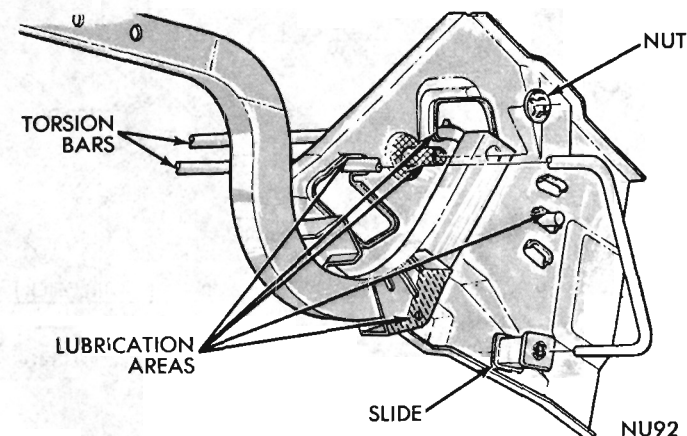

Fig. 18 - Deck Lid Torsion Bar
The deck lid hinges (Fig. 18) permit only a very slight adjustment at the deck lid to hinge attaching points.
- (1) Remove the deck lid assembly.
- (2) Disengage the torsion bar roller from hinge being removed. **Use care when disengaging torsion bar as it is under a load.**
- (3) Remove spring nut (Fig. 18) retaining hinge to hinge bracket and remove hinge.
- (1) Remove torsion bar (**underspring load**) from adjustment slot (Fig. 18).
- (2) Unwind torsion bar.
- (3) Unhook torsion bar from support bracket.
- (4) Push torsion bar out of roller in hinge arm